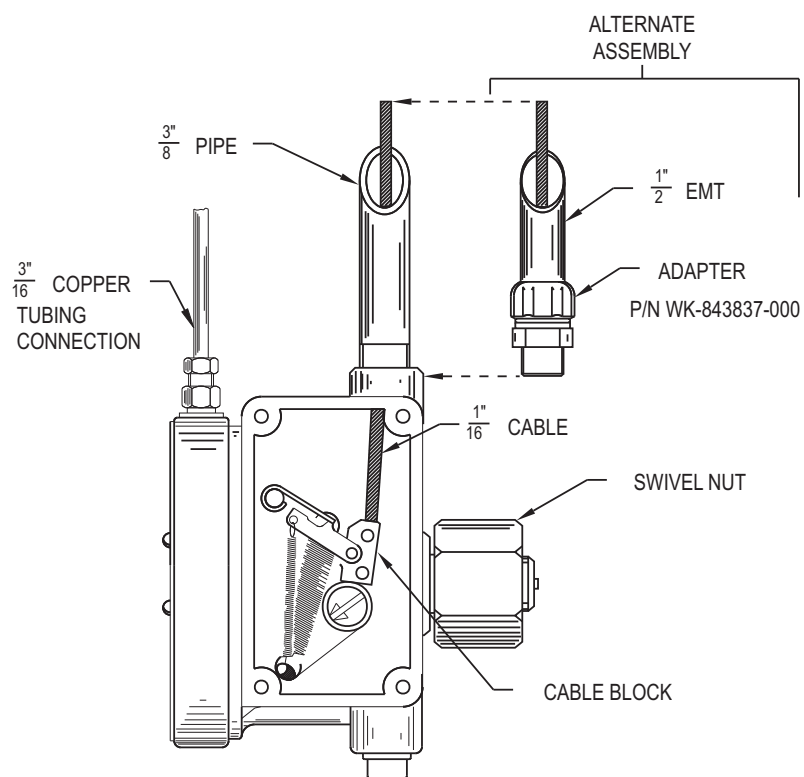

Figure 5-10. Installation Detail, Pneumatic Control Head
6. Connect carbon dioxide cylinders to the distribution piping in accordance with Figures 5-10 and 5-11 as applicable. When making connections, the use of pipe dope or red lead is not permissible. Tighten all connections securely using a wrench.